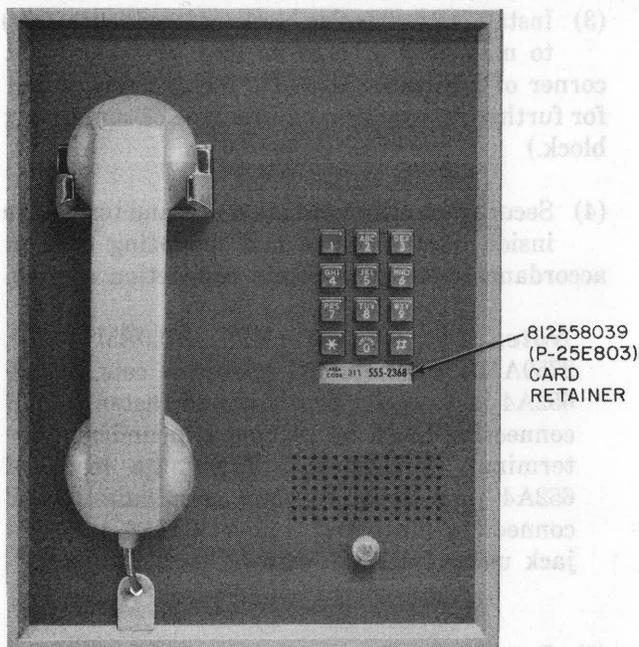

Fig. 1—2750-Type Telephone Set
1.01 This section contains information for 2750A (MD), 2750B (MD), 2750AM (MD), 2750BM (MD), 2750AMG, and 2750BMG telephone sets (Fig. 1).